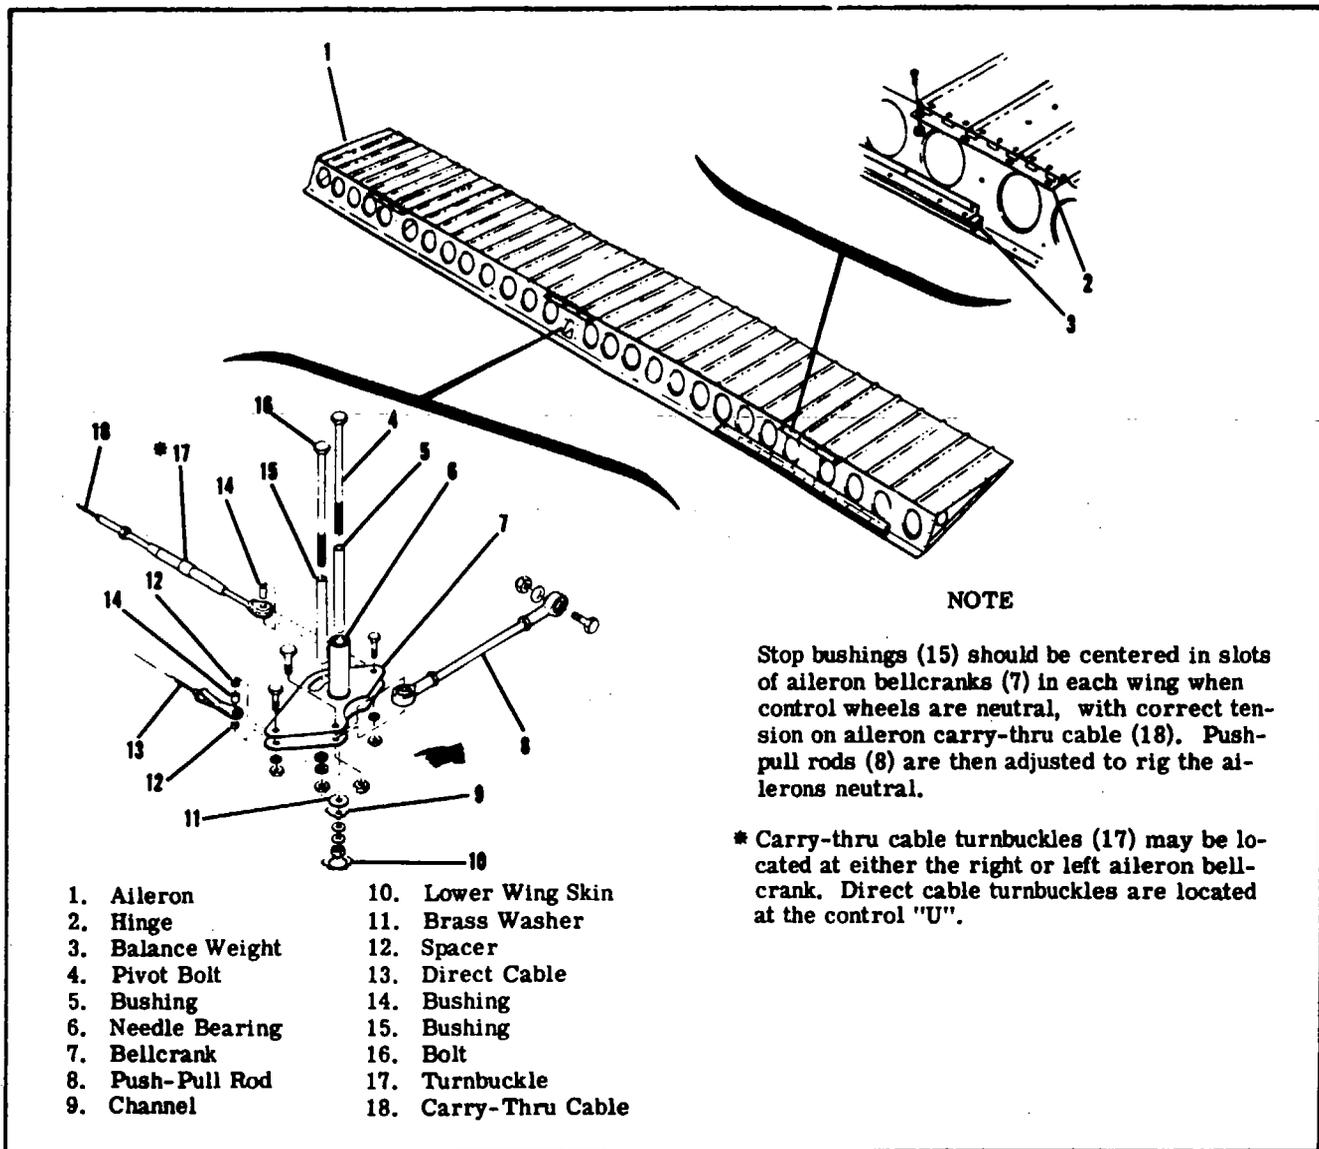

Figure 6-3. Aileron Installation
6-8. AILERON BELLCRANK. (Refer to figure 6-3.)
6-14. AILERONS. (Refer to figure 6-3.)
c. Keeping control wheels neutral, tighten turnbuckles (6) so control wheels are level in neutral position (synchronized), with enough tension on cables to remove slack from chains (4), without binding. Results of adjusting turnbuckles are as follows:
1. Loosening primary cable turnbuckles (6) and tightening secondary cable turnbuckle (15) at center of control "U" will move inboard sides of both control wheels down.
e. Adjust direct cable turnbuckles (17) below control "U" and single carry-thru turnbuckle (index 17, figure 6-3) at aileron bellcrank (index 7, figure 6-3)
so bellcrank stop bushings (index 15, figure 6-3) are centered in both bellcrank slots with 40 ± 10 pounds tension on aileron carry-thru cable (index 18, figure 6-3). Disregard tension on direct cables, which will be different than tension on carry-thru cable.
f. Adjust push-pull rods (index 8, figure 6-3) at each aileron until ailerons are neutral with reference to trailing edge of wing flaps. Be sure wing flaps are fully up when making this adjustment.